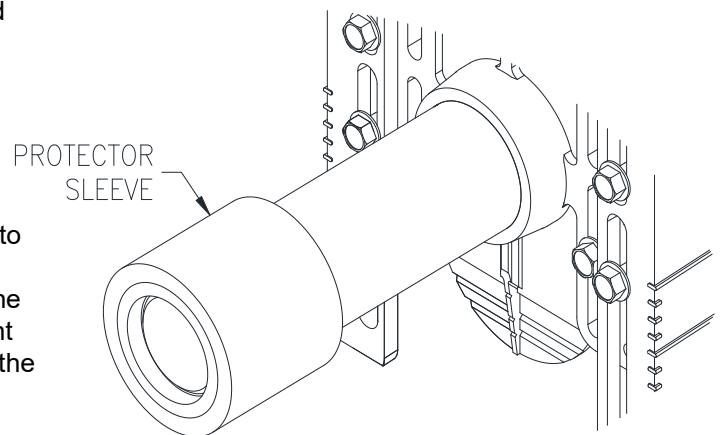

Fig. 12b
EZ-Set™ Coupling (ZQ) - Thread the coupling into the faceplate by hand until the threads engage. Using a strap or pipe wrench, continue to turn the coupling into the faceplate to create a water-tight seal. Ensure the protective sleeve is flush with the test cap. See Fig. 12b